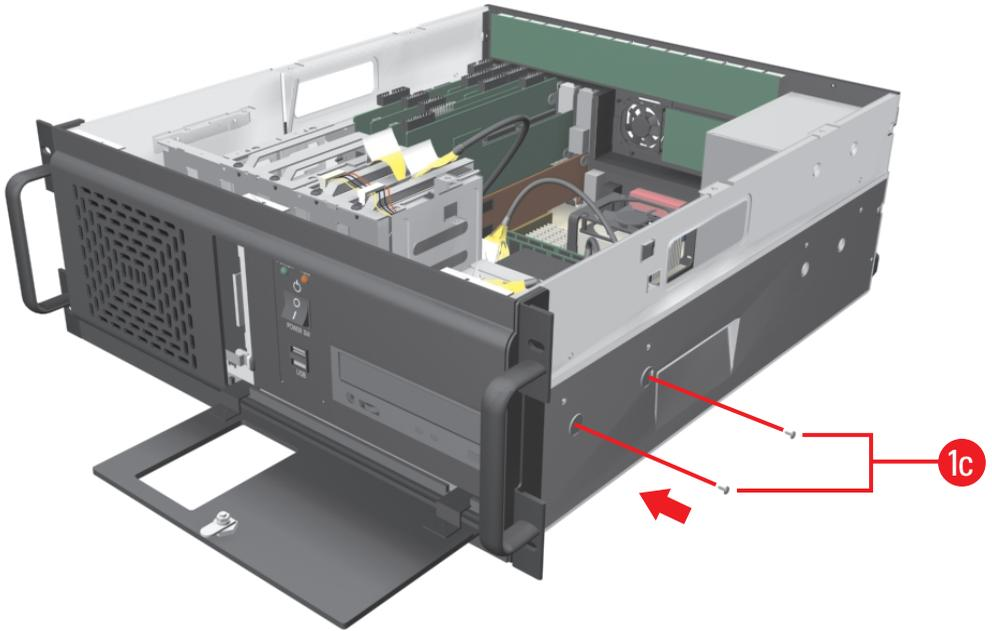

Figure 12. Securing the New DVD-RW Drive
- c. Using a Phillips-head screwdriver and the two screws provided in the upgrade kit, secure the drive to the unit's chassis. Refer to Figure 12. Tighten the screws securely but do not over-tighten.